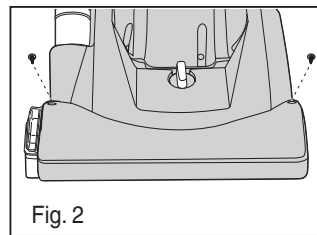

Fig. 2
- 2) Remove 2 screws from brush roll cover. (Fig. 2).
- 2) **Base hose** – remove 2 screws and brush roll cover. Clear blockage from base hose. Check for debris in brush roll and replace screws and cover (Fig 2).